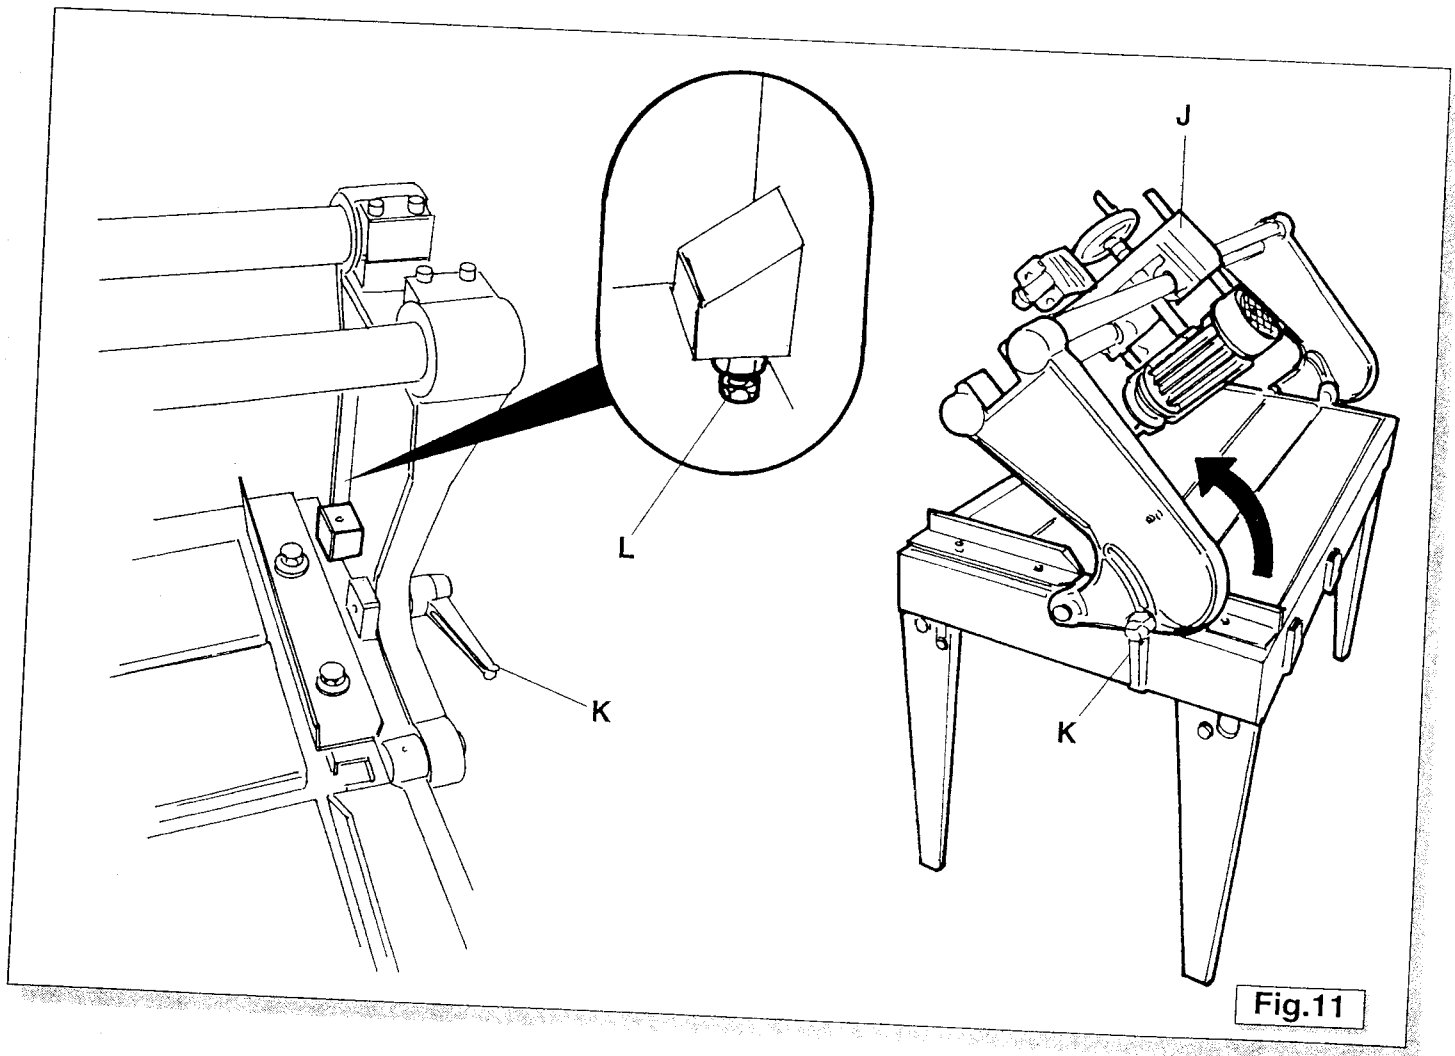

Fig.11
- To tilt the head **J** (Fig.11) 0°- 45°, loosen the two side lever handles **K** (Fig. 11). Adjust to the angle needed and tighten the lever handles again.
To accurately set 0° tilt, adjust the micrometric screws **L** (Fig. 11).